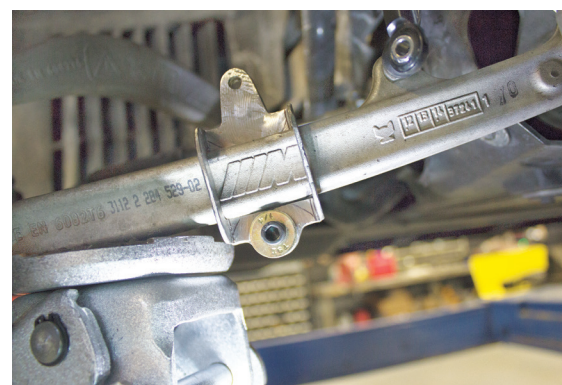

fig. 3
- Install the lower bracket so it is centered on the "M" logo on the control arm. Torque the bolt to 10Nm (89 lb.-in.) (Fig. 3).